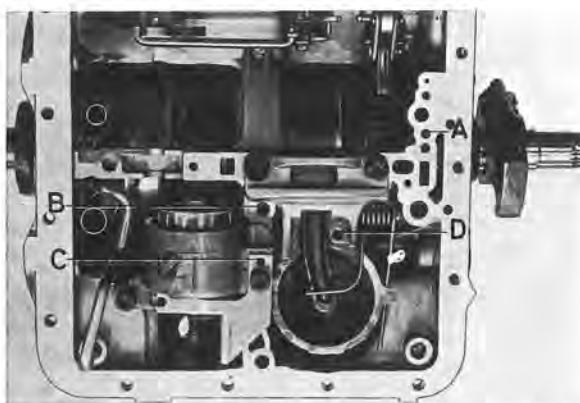

Fig. 4-77. Functioning test with compressed air
Apply air pressure to the passage (5) of the transmission case rear wall, see Fig. 4-77. Listen for a thump, indicating that the clutch is functioning. On the bench, also verify by rotating the input shaft with air pressure applied.